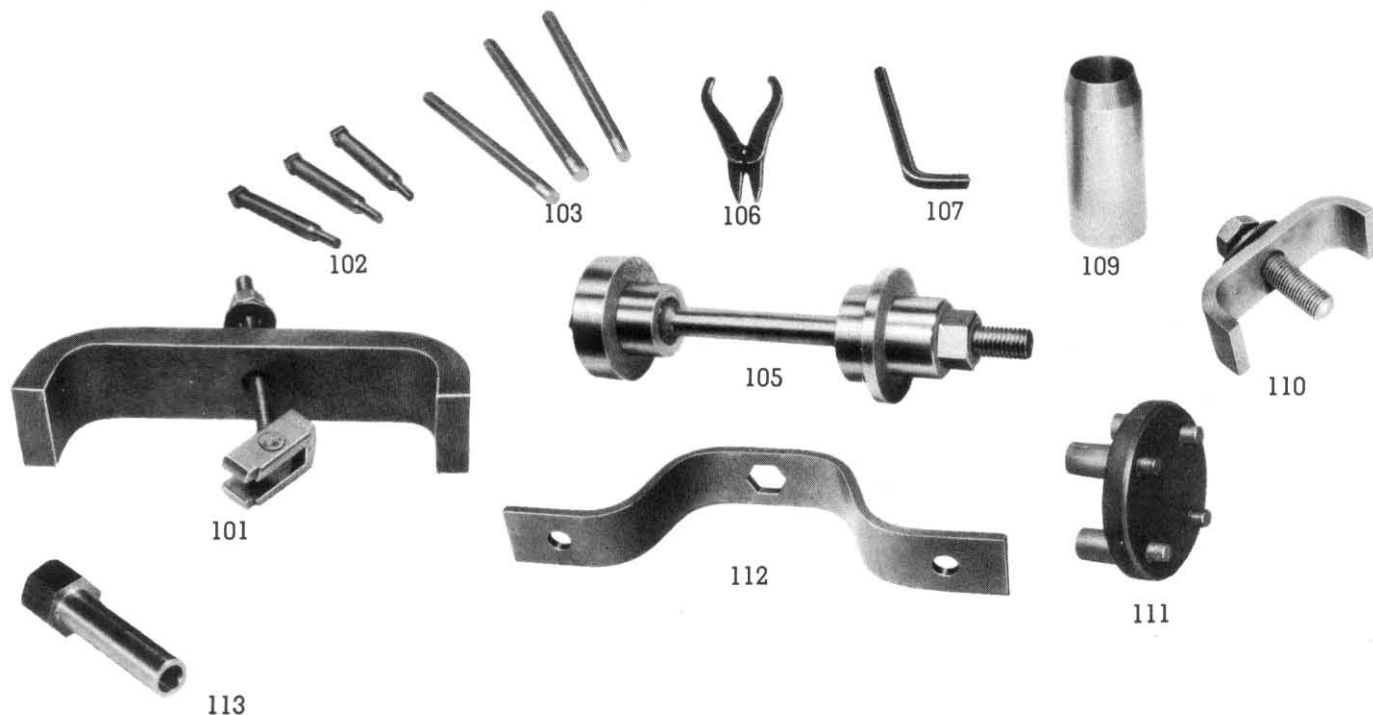

Fig. 12—Tools
2. Place the shaft sleeve (See Fig. 12) on the impeller end of the shaft. The shaft and bearings are to be assembled clean and with a light film of oil. With the shaft sleeve in place, insert the disk and shaft